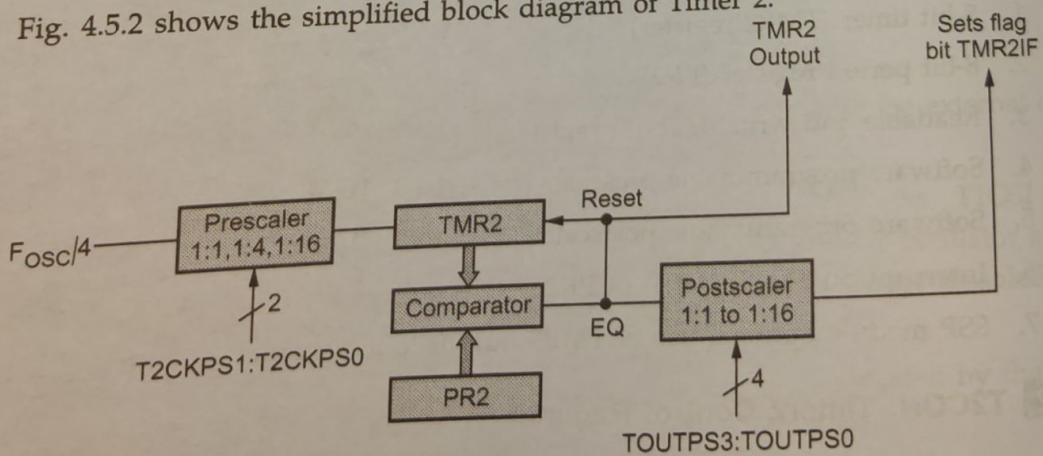

Fig. 4.5.2 Simplified block diagram of Timer 2
- Fig. 4.5.2 shows the simplified block diagram of Timer 2.